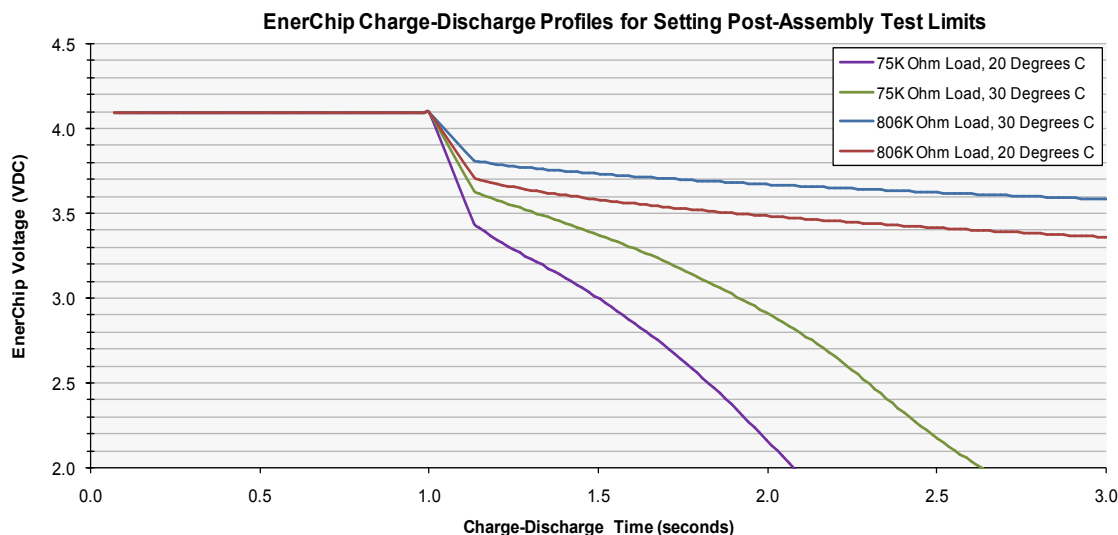

Figure 7: Voltage Determination on the VCHG/VEC Pin
8. The chart in Figure 7 should be referenced to determine the voltage on the VCHG/VEC pin to be expected after driving the ENABLE pin high for one second. The decay curves in the chart represent specific load impedances as might be encountered with Automated Test Equipment (ATE). Additionally, the decay curves represent the span of EnerChip cell impedances as specified in the respective data sheets. Note: If not using ATE with the ability to add a load impedance, it will be necessary to add resistance in parallel with the voltage measurement device so the readings will match the graph of Figure 7. Any measurement equipment and associated impedance circuits must only be temporally tied to the VCHG/VEC node for the time needed to make the measurement (seconds) and no longer as the measurement impedance will cause the battery to become discharged below 2.5V at which time the cell will become permanently damaged.
9. The graph in Figure 7 depicts the time-dependent and temperature-dependent voltage of the EnerChip RTC after applying a 4.1VDC charging voltage for approximately one second, followed by a brief discharge at a specific load resistance. Using this graph as a guide, the test engineer can develop a simple test that is feasible with the available test equipment and fixtures and meets the production throughput needs.